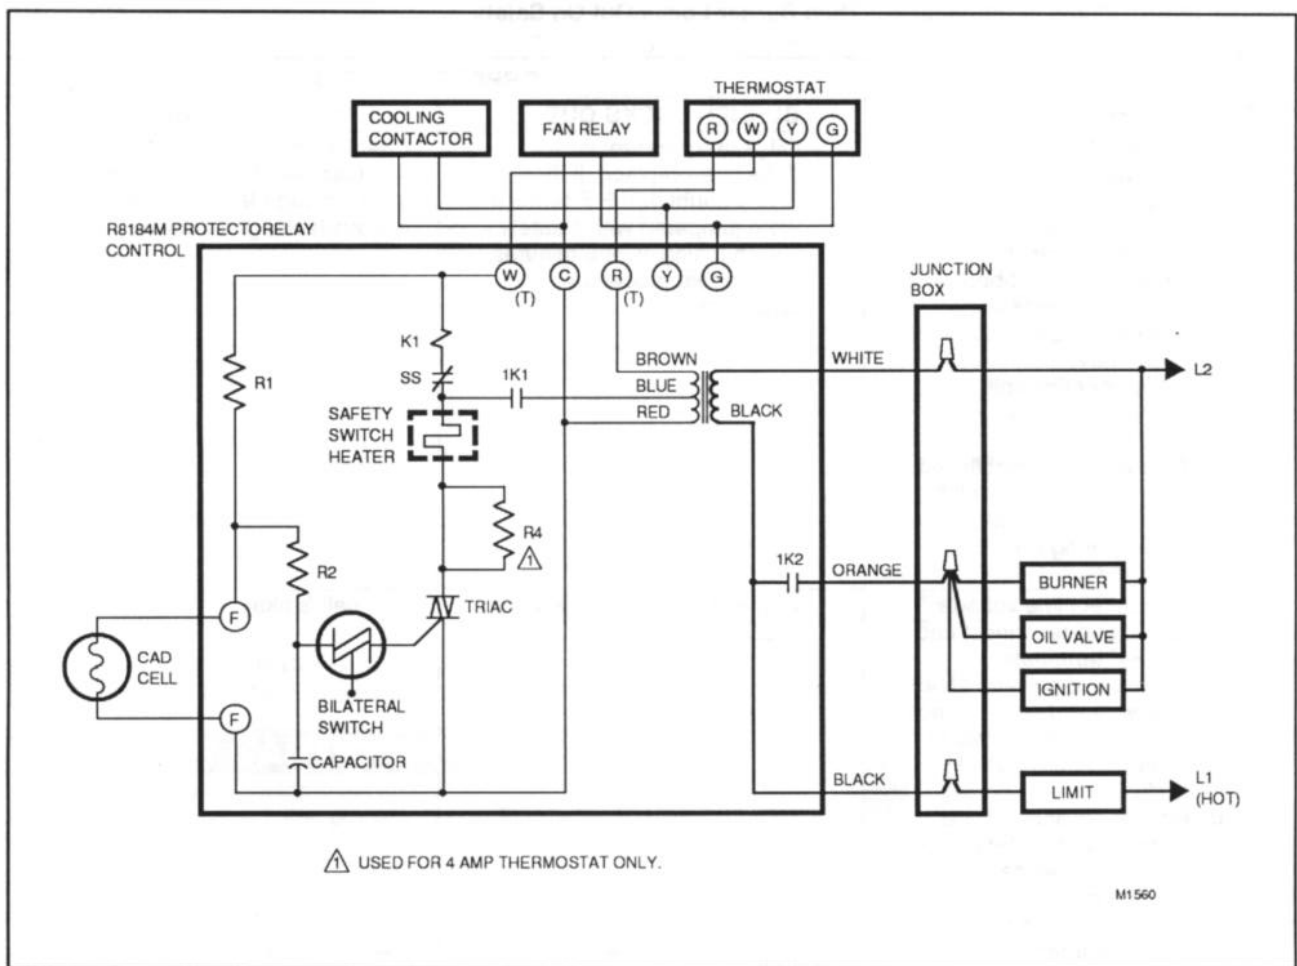

FIG. 4—WIRING DIAGRAM OF R8184M WITHOUT LOCKOUT INDICATOR LIGHT.
3. Mount the R8184M to the junction box. Refer to Fig. 4.